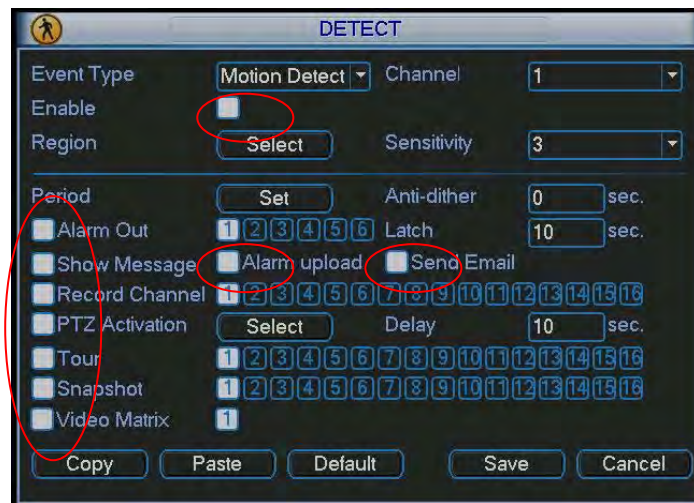
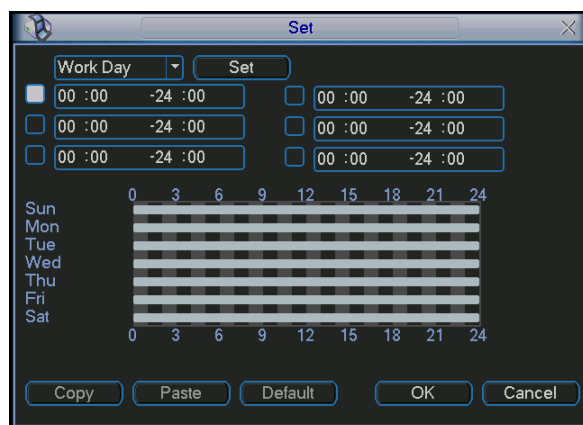
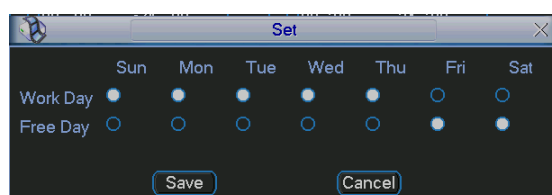
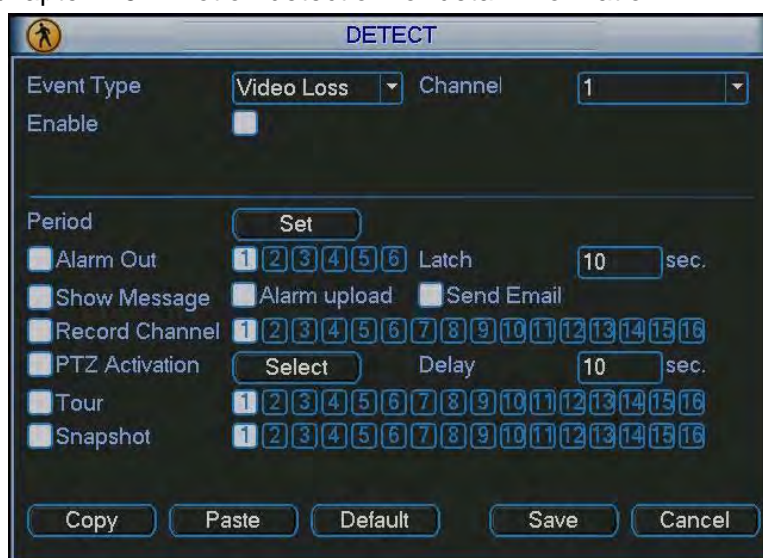

Figure 4-19
Figure 4-22
Figure 4-23
Figure 4-24
In the main menu, from Setting to Detect, you can see motion detect interface. See Figure 4-19. There is three detection types: motion detection, video loss, camera masking.
Detection menu is shown as below. See Figure 4-19.
- Period: Click set button, you can see an interface is shown as in Figure 4-22. Here you can set for business day and non-business day. In Figure 4-19, click set button, you can see an interface is shown as in Figure 4-23. Here you can set your own setup for business day and non-business day.
In Figure 4-19, select video loss from the type list. You can see the interface is shown as in Figure 4-24. This function allows you to be informed when video loss phenomenon occurred. You can enable alarm output channel and then enable show message function.